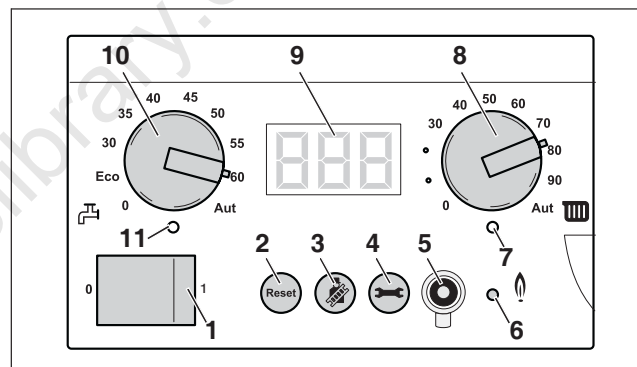

fig. 104 BC10 basic controller
- Set the DHW temperature dial (fig. 104, **item 10**) to the required temperature of the hot water in the hot water cylinder (see table 17).